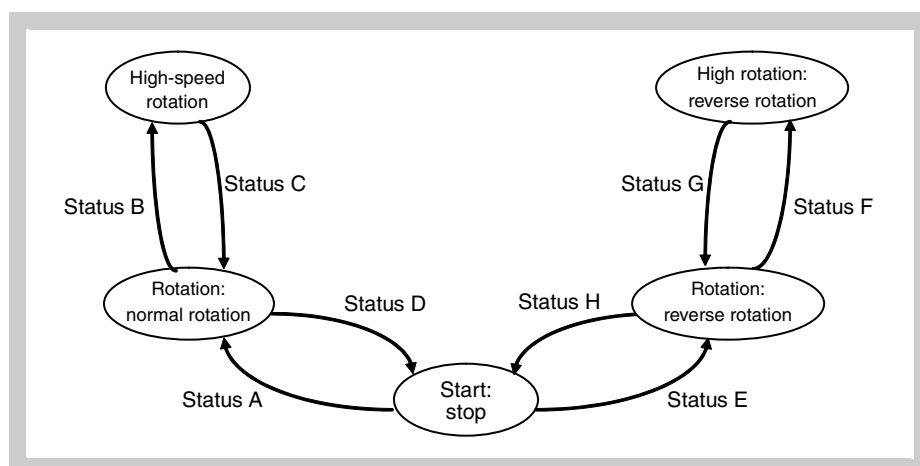
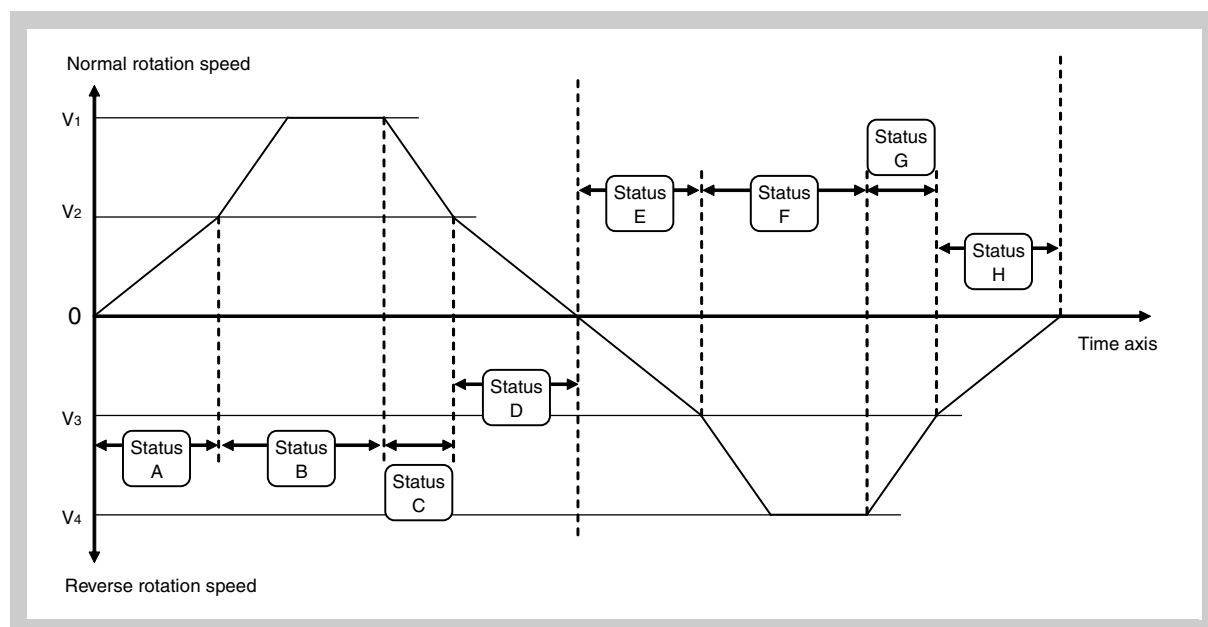

Figure 17-155 Status transition diagram
Figure 17-156 Relationship between status transition and motor rotation speed
*Figure 17-155 and Figure 17-156 show the status changes.*